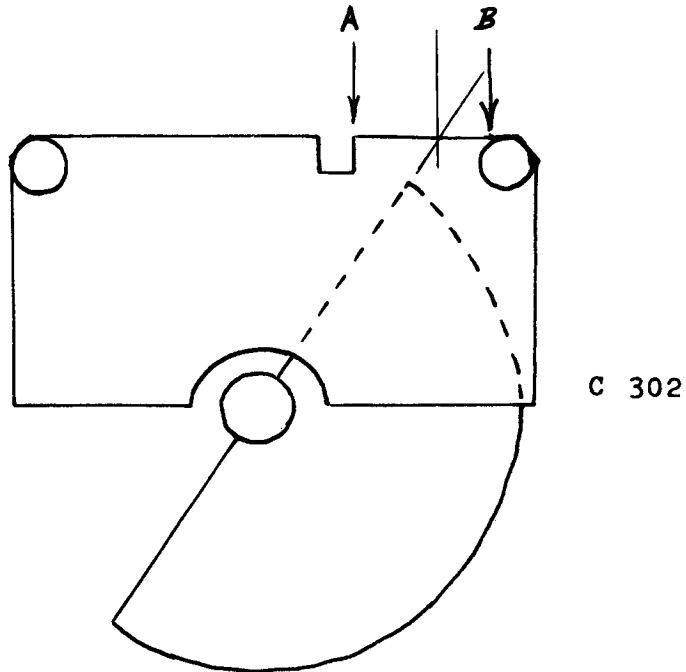

FIGURE 7
- 7.1.8.5 Adjust the rotor angle of the variable capacitor, C302, (part # CB-105), to a position where the rotor plates are in mesh with the stator plates by approximately sixty degrees (60°). The correct angle is obtained when an imaginary line is continued from the straight edge of the rotor bisecting line of "AB" of the stator as indicated in figure 7.